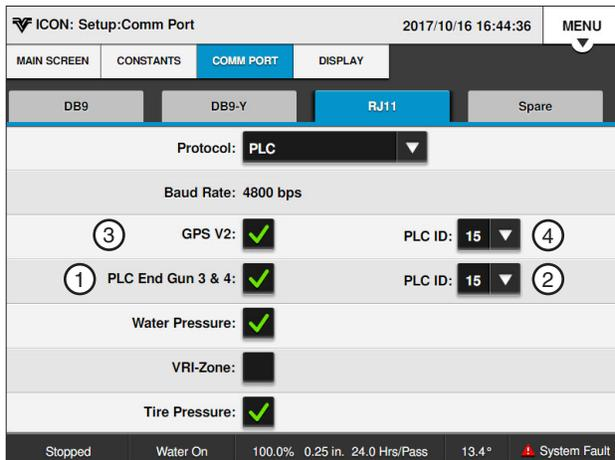

Figure 42-1 PLC Setup Screen
1. Push **Menu**, **Setup**, **Comm Port** and **RJ11** (recommended) or **DB9-Y** (requires special cabling), change the comm port protocol to PLC and push the **PLC Setup** button to display the PLC screen. Refer to Figure 42-1.